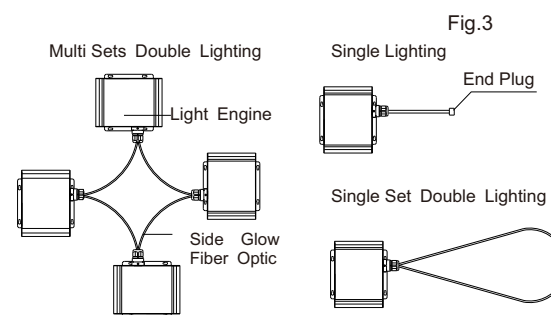

Fig.3
- (1) Side Lighting Fiber Optic(see Fig.3).